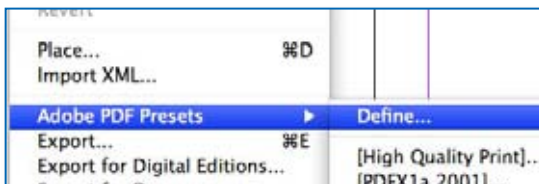

Fig.1
- In order to change your settings please choose the menu point **“File” Adobe PDF settings → Define.** (fig. 1)